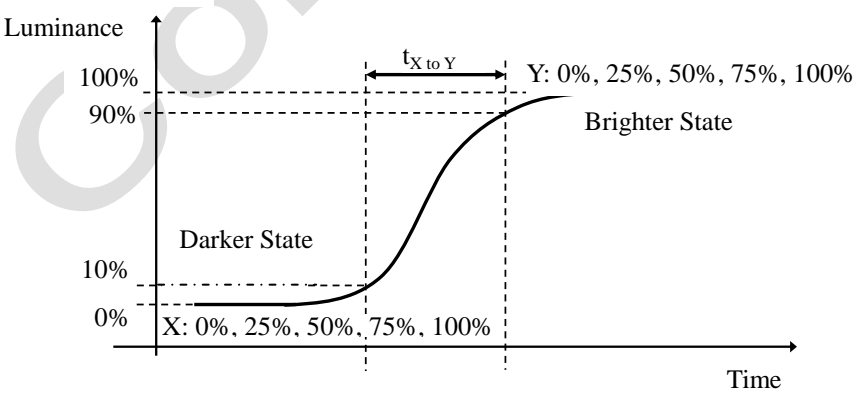

Fig. 7.4 The definition of  $t_{X \text{ to } Y}$
(3) Response time  $T_L$  is defined as the average transition time in the response time matrix. The table below is the response time matrix in which each element  $t_{X \text{ to } Y}$  is the transition time from luminance ratio  $X$  to  $Y$ .  $X$  and  $Y$  are two different luminance ratios among 0%, 25%, 50%, 75%, and 100% luminance. The transition time  $t_{X \text{ to } Y}$  is defined as the time taken from 10% to 90% of the luminance difference between  $X$  and  $Y$  ( $X < Y$ ) as illustrated in Fig.7.4. When  $X > Y$ , the definition of  $t_{X \text{ to } Y}$  is the time taken from 90% to 10% of the luminance difference between  $X$  and  $Y$ . The response time is optimized on refresh rate  $F_r = 60\text{Hz}$ .